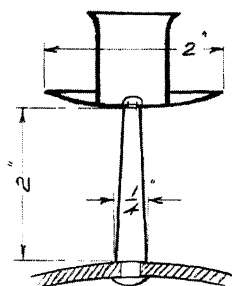

FIG. 4
9. Drill and fit the stems to the main scroll and rivet (Fig. 4).